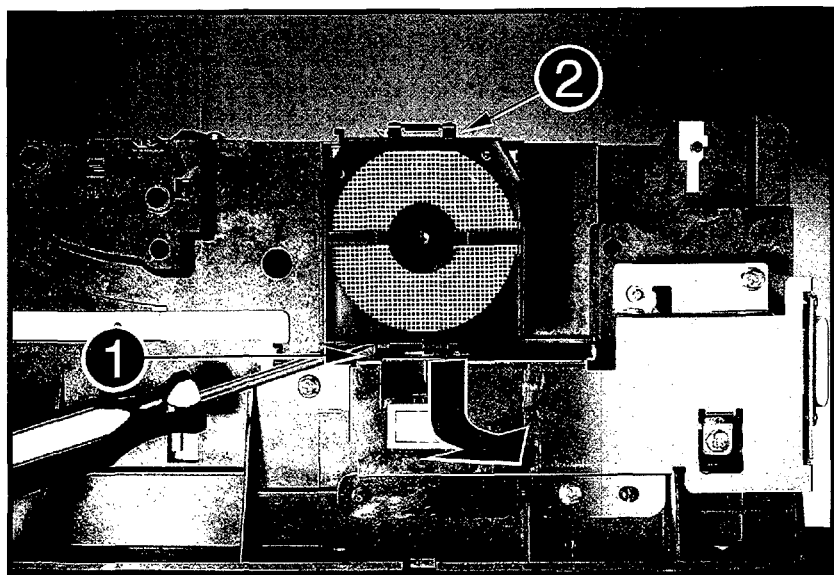

Figure 6-22 Removing the Fan (LaserJet 4P/4MP shown)
3. Pull down on both sides of the plastic bottom tab (use a flat-blade screwdriver on the LaserJet 4P/4MP) and tilt the bottom of the fan outward (Figure 6-22, callout 1).
4. With the bottom tab released, pull upward on the top tab to remove (Figure 6-22, callout 2).